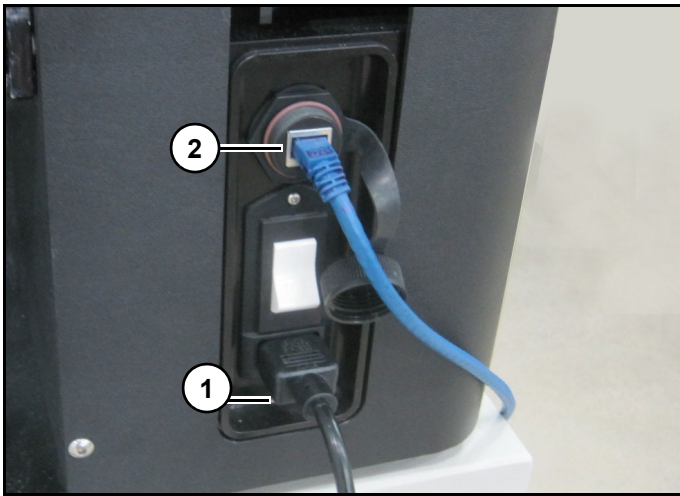

Figure 9
11. Plug in main power (1) and network connection (2). (Figure 9)